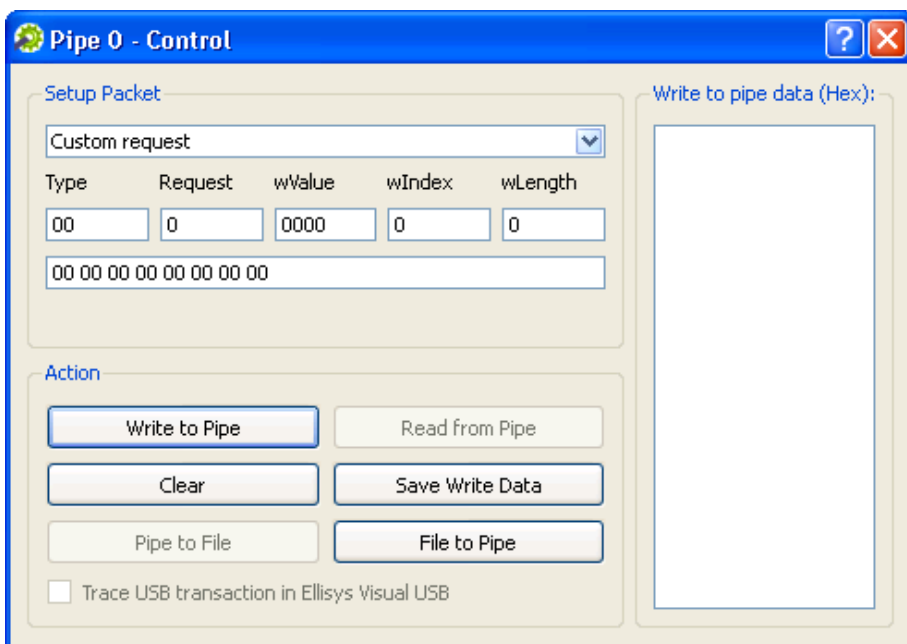

Figure 9.3 Custom Request
- For a custom request: enter the required setup packet fields. For a write transaction that includes a data stage, enter the data in the **Write to pipe data (Hex)** field. Click **Read From Pipe** or **Write To Pipe** according to the required transaction (see Figure 9.3).